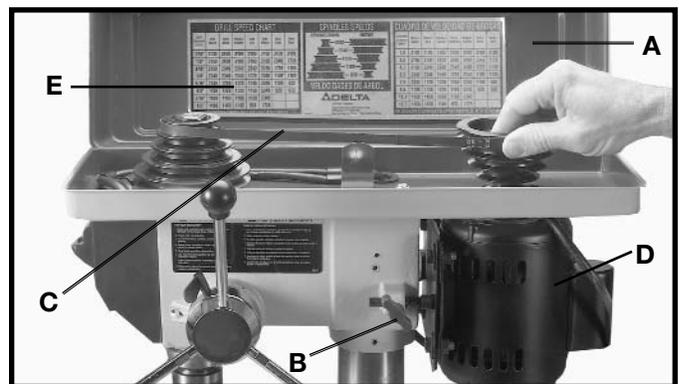

Fig. 26
**NOTE: A BELT POSITIONING SPEED CHART (E) FIG. 26, IS LOCATED ON THE INSIDE TOP COVER OF THE DRILL PRESS.**
2. Lift up the belt and pulley guard (A) Fig. 26.
3. Release belt tension by loosening tension lock knob (B) Fig. 26, and pivoting the motor (D) toward the front of the drill press.
4. While holding the motor toward the front of the drill press, position the belt (C) on the desired steps of the motor and spindle pulleys, as shown in Fig. 26.
5. After the belt is positioned on the desired steps of the motor and spindle pulleys, move motor (D) Fig. 26, to the rear until the belt is properly tensioned and tighten tension lock knob (B). The belt should be just tight enough to prevent slipping. Excessive tension will reduce the life of the belt, pulleys and bearings. Correct tension is obtained when the belt (C) can be flexed about 1" out of line midway between the pulleys using light finger pressure.